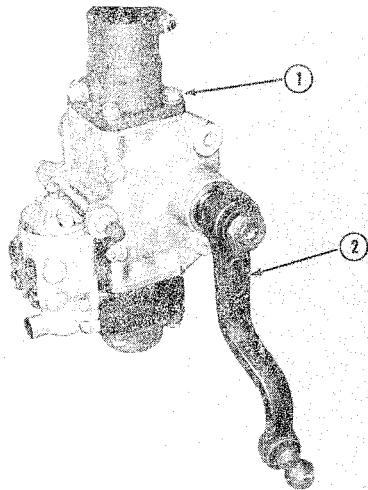

Figure 8-5
Remove steering arm (2, Fig. 8-5) from steering gear (1) using a suitable puller. Do not hammer off arm without using support against the end of the shaft and use light blows as they are more effective.